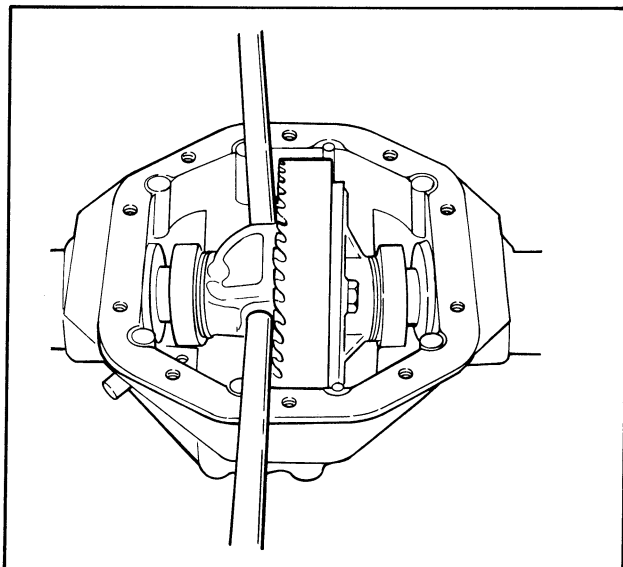

Figure 35 - Prying Out Case
- f. Pry carrier from differential case assembly with two pry bars, Figure 35.